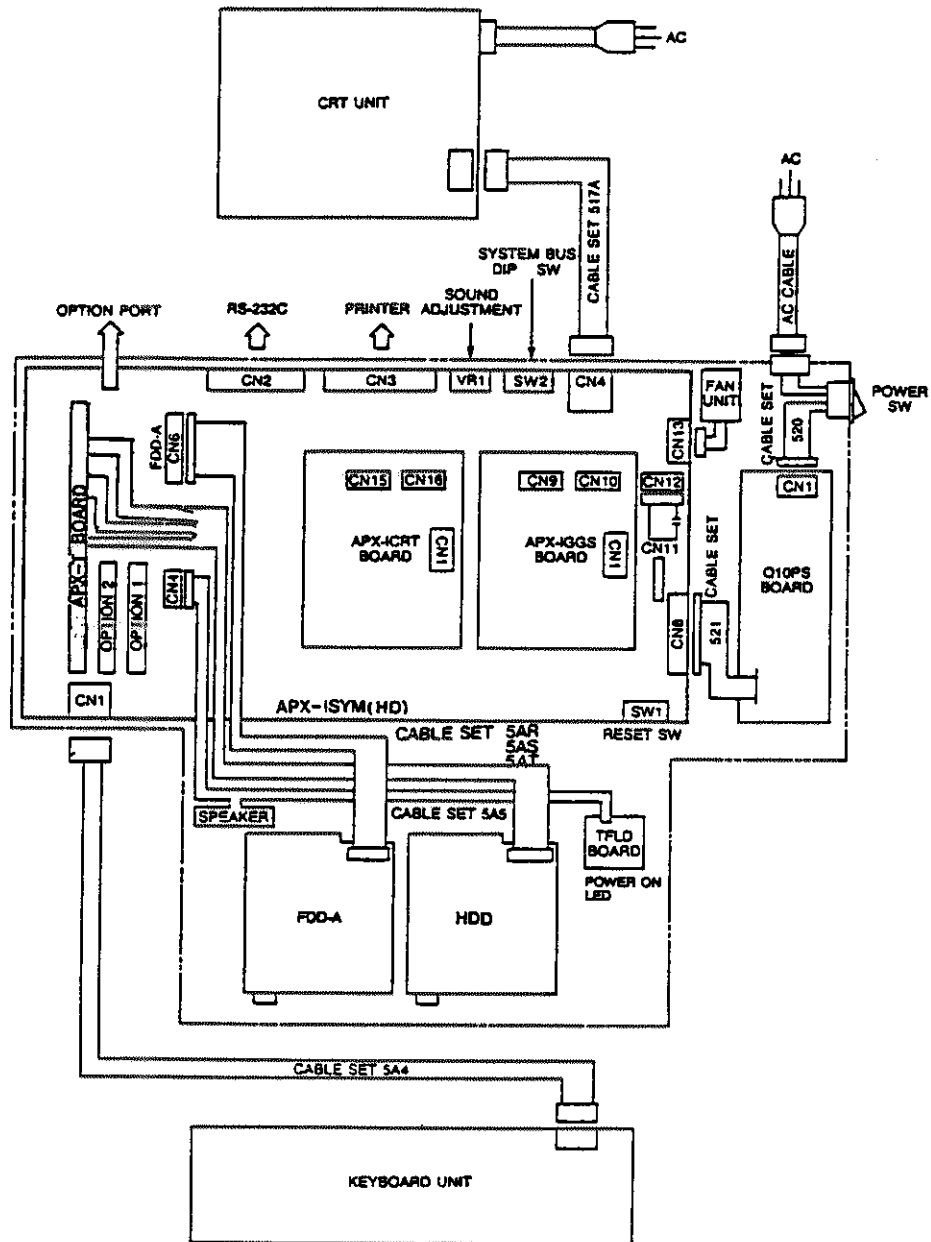

FIGURE 1-1. COMPONENT LOCATIONS
The QX-16HD has the same specifications as the QX-16 except as noted in the following sections. In the QX-16HD, drive B houses the hard disk unit, which is connected to the APX-ISYM(HD) board via the APX-T interface board. Figure 1-1 shows the main unit configuration.